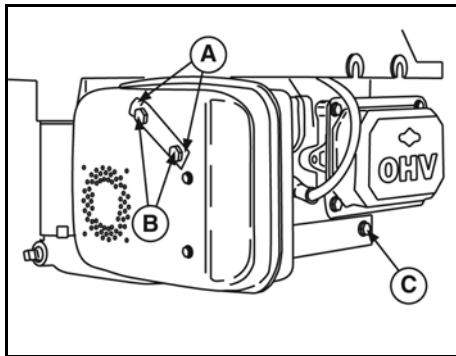

Figure 28
1. Remove muffler support screw (C, Figure 28).
2. Bend back tabs (A) on screw lock and remove mounting screws (B), muffler, and gasket. Discard screw lock and gasket.